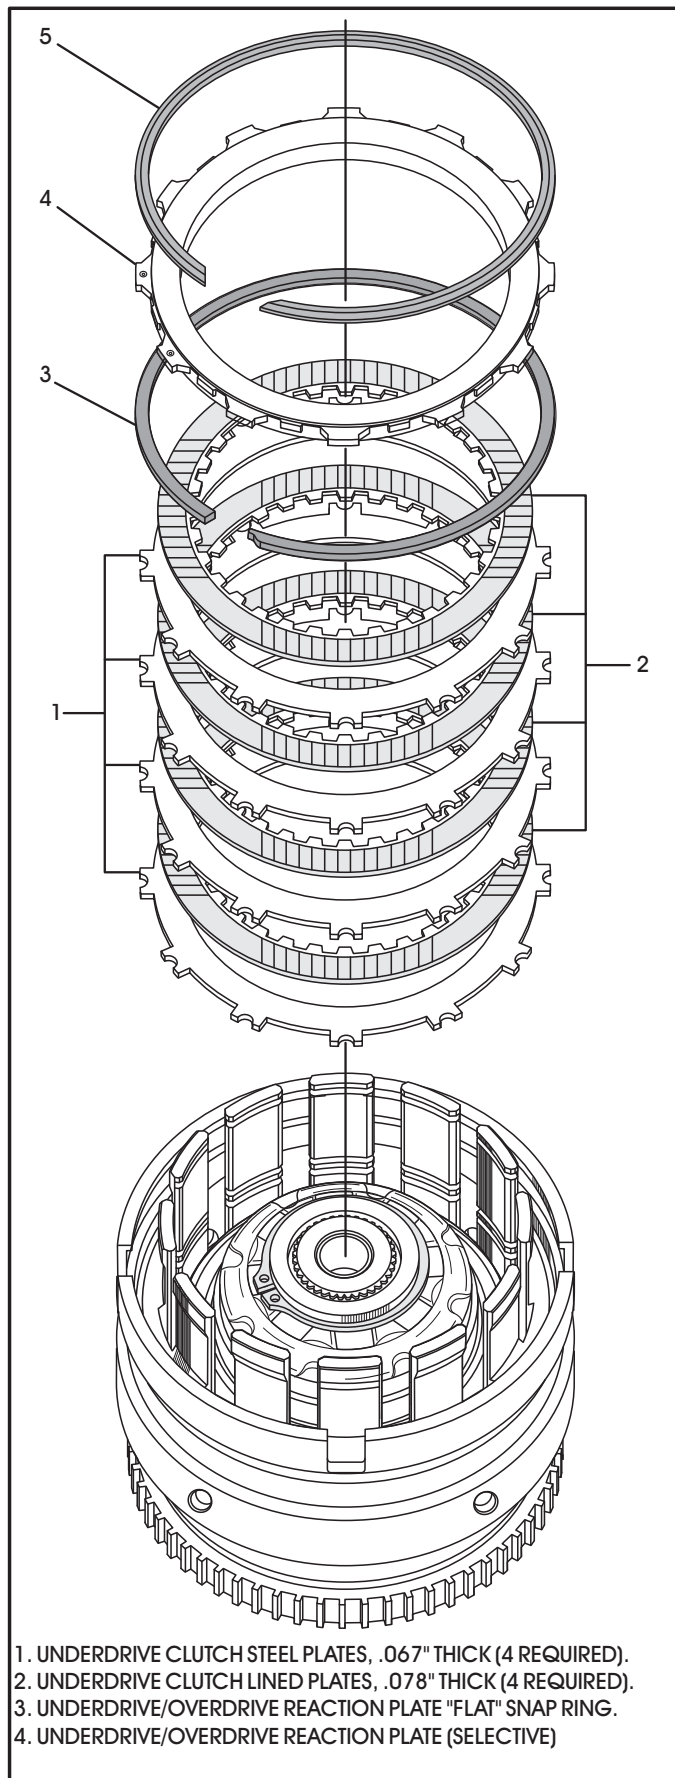

Figure 78
21. Install the underdrive clutch pack starting with a steel plate and alternating with a lined plate until you have installed four of each, as shown in Figure 78. Note that the underdrive steel plates have a half-moon cut in each of the tabs.
22. Install the underdrive/overdrive reaction plate lower **flat** snap ring into the housing in the lower groove (See Figure 78).
23. Install the underdrive/overdrive reaction plate into the input clutch retainer, with the big step facing down as shown in Figure 78. This plate is also selective to achieve proper underdrive clutch clearance.
24. Install the underdrive/overdrive reaction plate upper **tapered** snap ring into the housing with the tapered side facing up (See Figure 78).